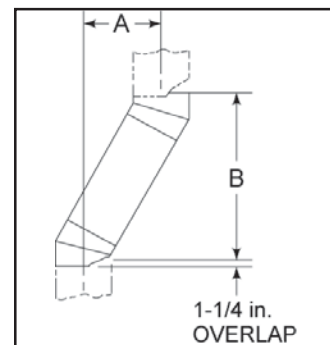

Figure 5
- Measure how far the chimney needs to be shifted to enable it to avoid the overhead obstacle. See Figure 5, dimension "A" to determine chimney sections required to achieve the needed shift.
Example: Your "A" dimension from Figure 5 is 14-1/2 in. Using Table 1 the dimension closest to, but not less than 14-1/2 in. is 14-5/8 in. using a 30-deg offset/return. It is then determined from the table that you would need 33 in. (Dimension "B") between the offset and return. The chimney components that best fit your application are two SL312s.